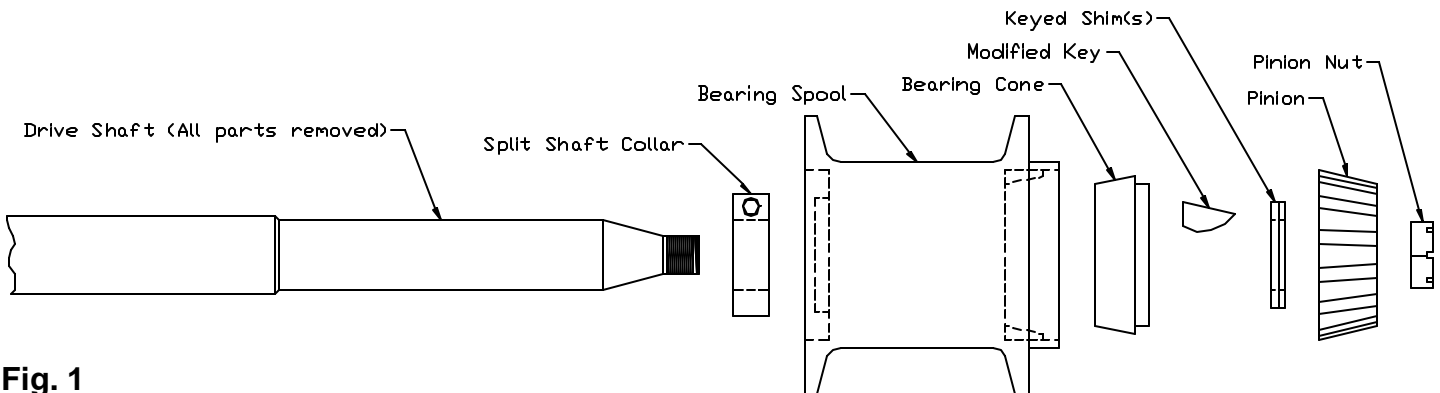

Fig. 1
1) Remove all items that are normally fastened to the threaded end of the drive shaft. You will **not need** the old thrust bearing assembly nor any part of the roller bearing or inner and outer sleeves. You **will need** the Woodruff key, nut, and pinion gear. Refer to Fig. 1 to identify the parts that will ultimately be used and their proper relative positions.